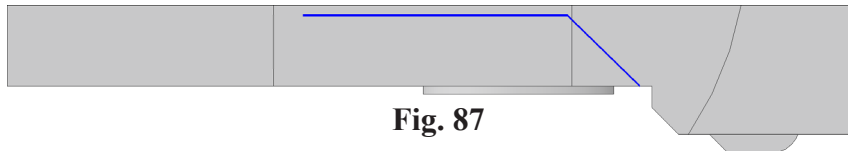

Fig. 87
Step 6. Sketch a horizontal line from Sketch 9 down at an angle to bottom edge of Extrude1, **Fig. 87**.